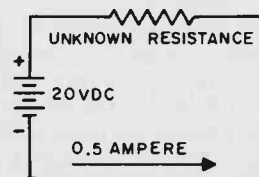

Fig. 13. Most Ohm's law problems are simple series circuits or can be reduced to simple series circuits.
**Ohm's Law to Determine Resistance.** Ohm's law for resistance enables us to determine the unknown value of resistance in a circuit. Fig. 13 again shows a simple series circuit with the battery voltage given as 20 volts and the current flowing through the circuit as 0.5 ampere. The unknown resistance value in this circuit is found as follows: